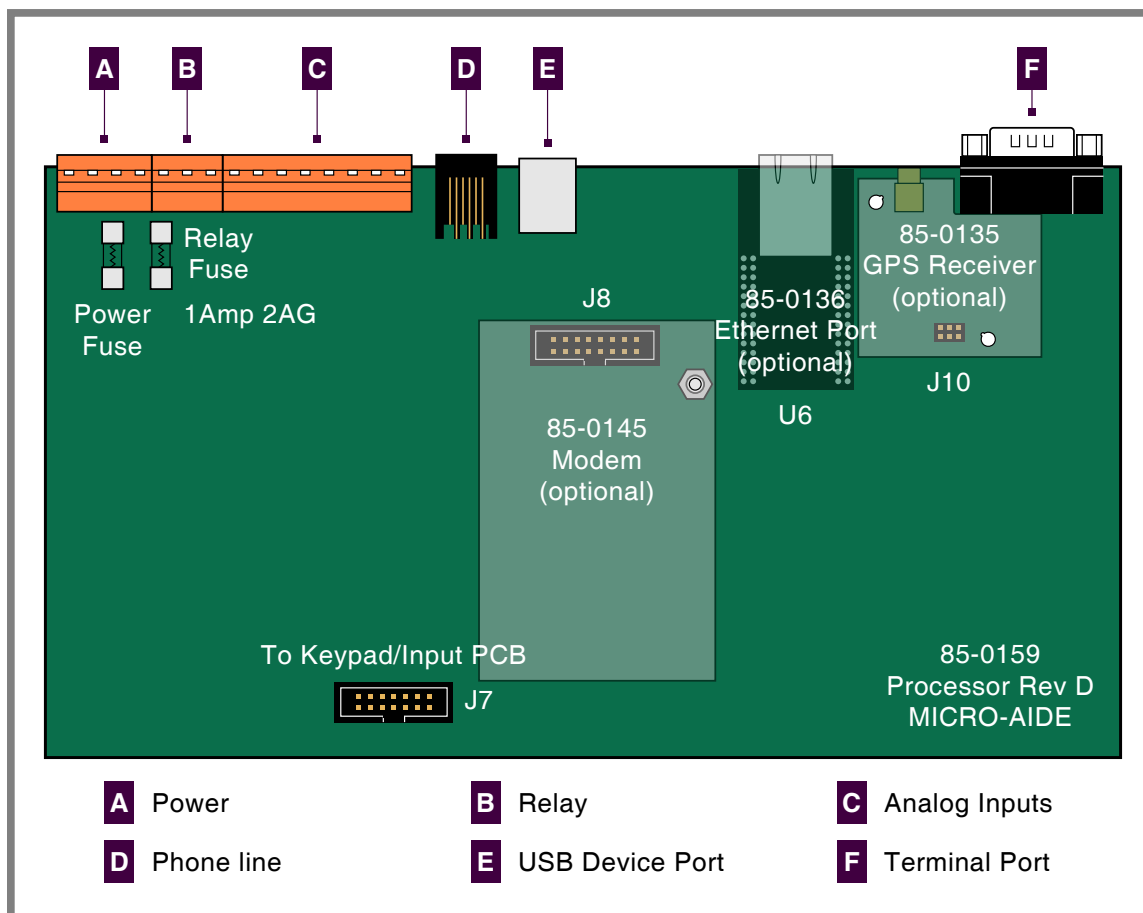

Figure 7: Processor PCB
There are two fuses mounted on the Processor PCB. The fuses are designed to protect the input power source and the contacts of the output relay. Each are rated at 1 A and conform to the 2AG size standard. Before replacing a fuse the cause of the blown fuse should be ascertained and cleared if possible. The fuses are illustrated in Figure 7 on page 85.
Generally, the GPS Receiver is ordered at the time the recorder is purchased and is pre-installed at the factory. If the receiver was not previously ordered, it can be installed by the user. To install the receiver follow the steps listed in the following. The GPS Receiver PCB is illustrated in Figure 7 on page 85.
3. Locate the 6-pin female socket labeled "J10" near the top-right edge of the Processor PCB. The socket is illustrated in Figure 7 on page 85.
Generally, the modem PCB is ordered at the time the recorder is purchased and is pre-installed at the factory. If the modem was not previously ordered, it can be installed by the user. To install the modem follow the steps listed in the following. The modem is illustrated in Figure 7 on page 85.
2. Locate the 16-pin female socket labeled "J8" near the center of the Processor PCB. The socket is illustrated in Figure 7 on page 85.
3. Locate the 56-pin female socket labeled "U6" along the upper edge of the Processor PCB. The socket is illustrated in Figure 7 on page 85.